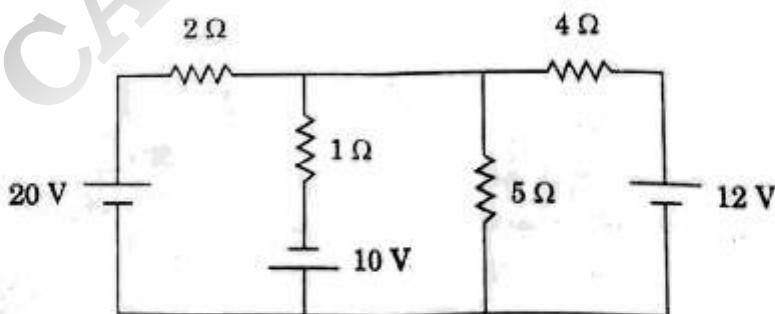

Figure 2
- (d) Find the voltage across the $5\ \Omega$ resistance in the network shown in Figure 2 using Thevenin's theorem.